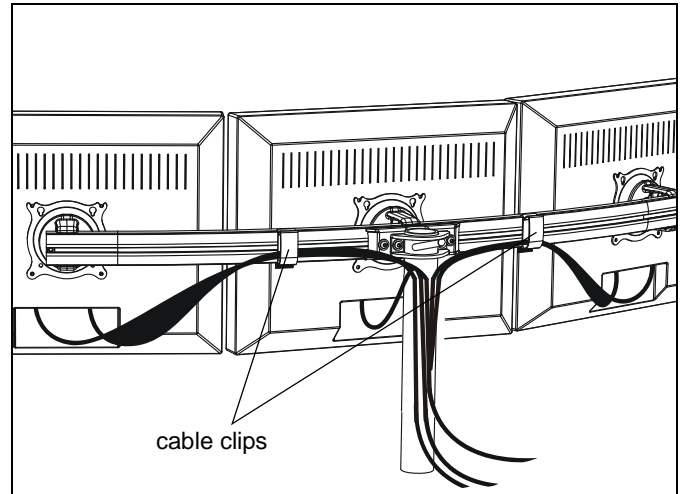

Figure 8
3. Route cables down pole and away from mount. (See Figure 8)